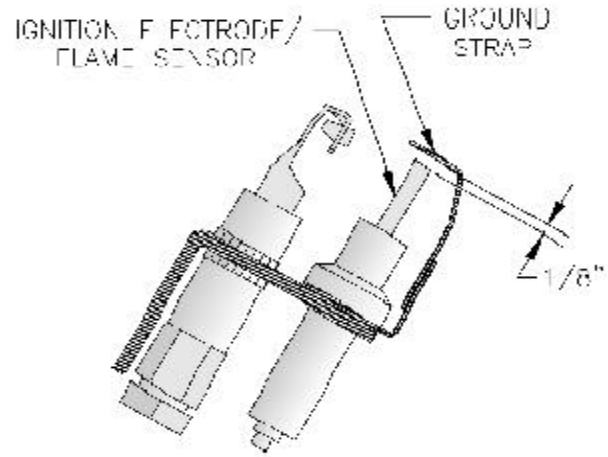

Figure 18: Spark Gap Setting
2. To adjust or check spark gap between electrode and hood on Honeywell Q348A intermittent pilot. See Figure 18.